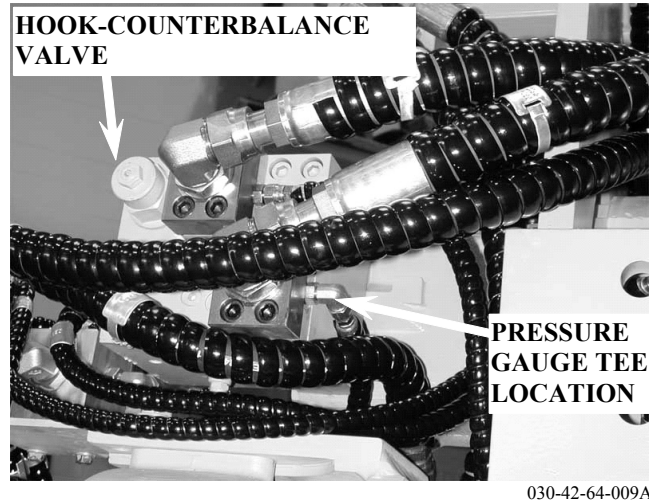

Figure 60: Location of pressure gauge tee, on hook winch brake manifold.
2. Install a tee fitting at the location shown in Figure 60 and reconnect the hose line.